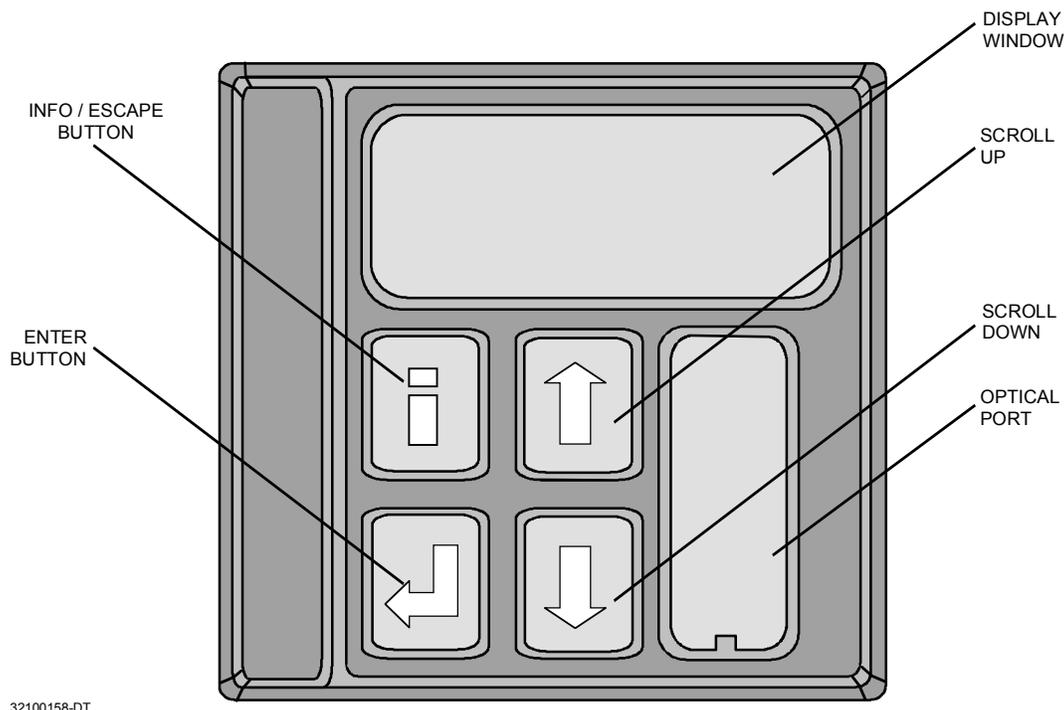

Figure 2-15. IWS Console (DPCU).
2.3.2.5 Power-On Procedures (PN 148245). (See Figure 2-15.)